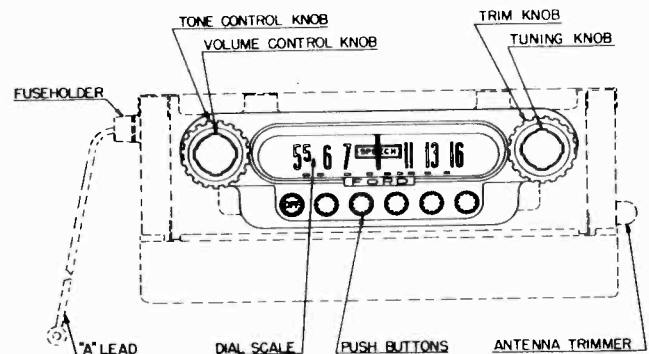

Fig. 2. Front Panel View
The radio is connected to the accessory terminal of the ignition switch, therefore, it is necessary to turn the ignition key to the left, if the engine is not running, before turning the radio on. Press any one of the five automatic push buttons. (Fig. 2.) Allow approximately 20 seconds for the receiver to reach operating temperature.
To turn the receiver off, press the "Off" push button (Fig. 2).
To operate the manual tuning control simply turn the tuning knob. (Fig. 2.) When tuning in a station, be sure to tune to the exact frequency for the best tone quality.
Turn the volume control knob for the desired volume. (Fig. 2.)
There are five automatic tuning push buttons located to the right of the "Off" push button. (Fig. 2.)
2. Tune in the station desired for number 1 position by turning the tuning knob. (Fig. 2.) Be sure to tune to the exact frequency to insure the best tone.
3. Loosen the number one push button, located nearest the "OFF" push button (Fig. 2) by turning it counterclockwise with your fingers not more than two turns. If the push button is completely unscrewed, the plunger assembly, inside the receiver, may come apart. Then it will be necessary to remove the radio from the car, open the case, and reassemble the plunger.